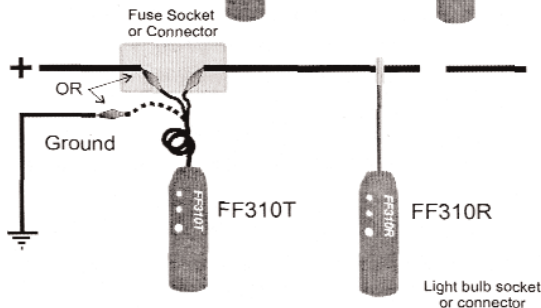

Fig.4 - Set up for tracing open circuits or identification of wires
- **Tracing wires upstream** (from load to supply): If more convenient, wires can also be traced the other way around, by replacing the load with the FF310T (Fig. 4 of Hook Up reference chart). To do this, first remove power from the circuit, disconnect load and connect the FF310T in its place. Apply power to the circuit and follow the instructions in section **6 – Locating short circuits**.